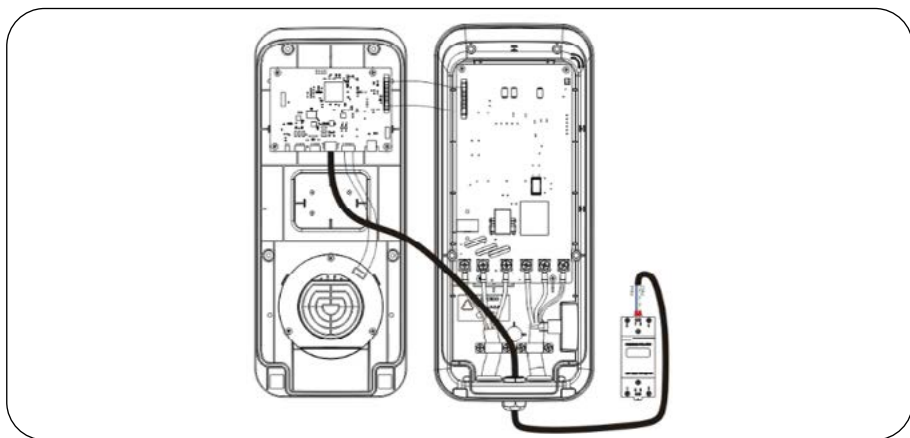

Figure 35
5. If you want to integrate the use of an external meter, use a network cable for RS485 communication. The connection diagram is shown in Figure 35.